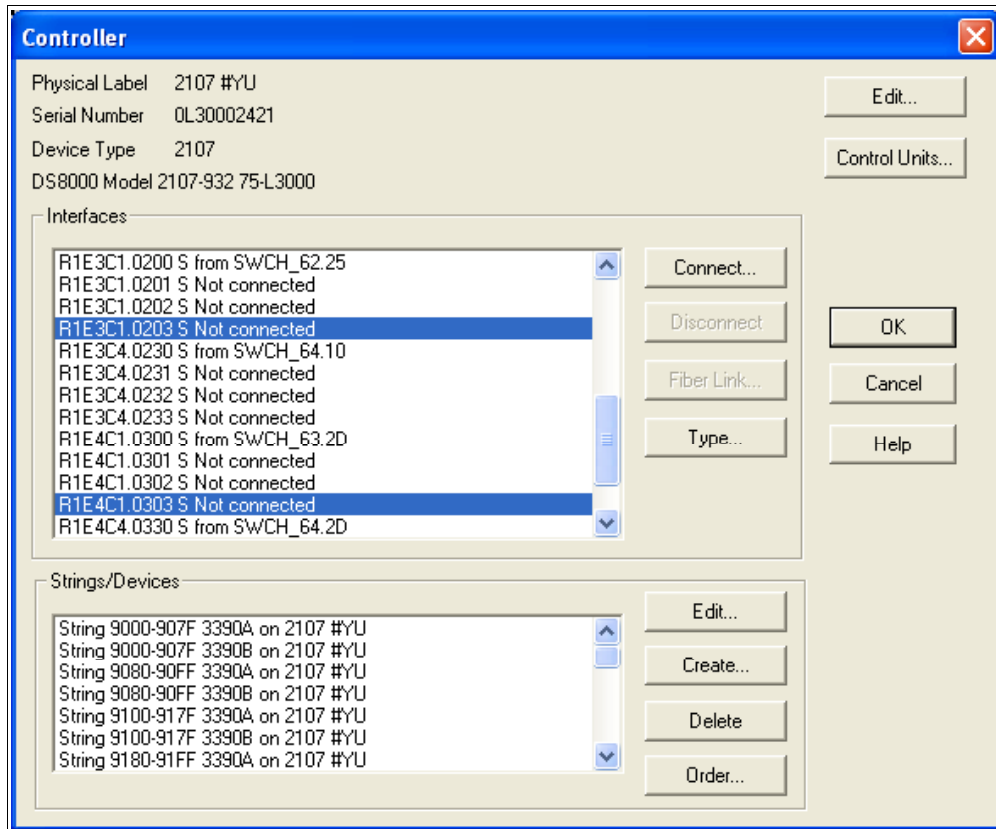

Figure 5-16 HCM Connecting to the DS8000 interfaces
9. Double-click the controller figure, and in the Interfaces box, highlight our two interfaces 0203 and 0303. Click **Connect**, as shown in Figure 5-16 on page 132.